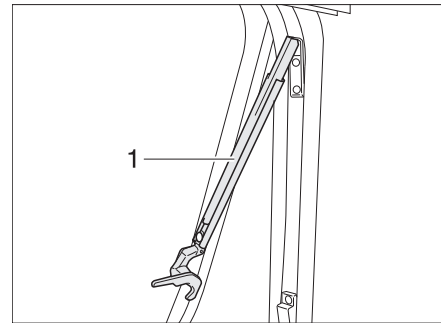

Fig. 39 Hinged window with automatic hinges, open
- Open the hinged window to the desired latched position. The automatic hinge (Bild 39,1) locks in place automatically.